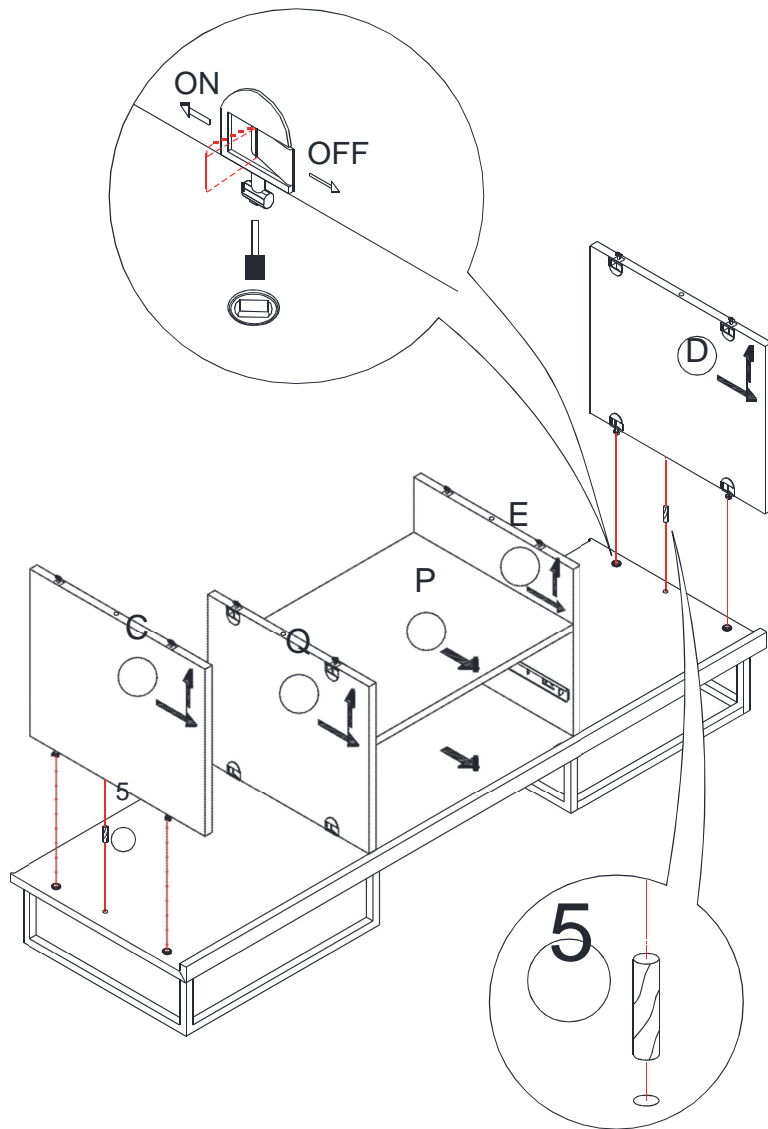

Figure 4
Assemble the left panel (C) and right panel (D) to the assembled unit using wood dowels (5) as shown in figure 4.
Switch the lock as shown in figure 4.